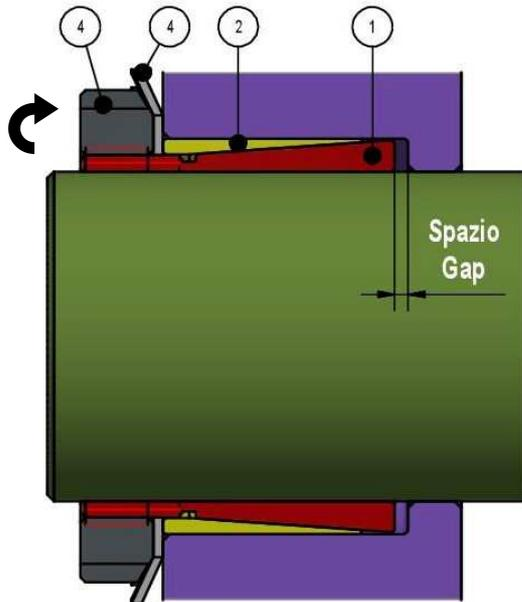

Fig. 4. Positioning of Locking Assembly and tightening of the nut.
Insert Locking Assembly into the hub bore and make it slide onto the shaft, making sure that connected components are positioned as required. **Inner respectively outer rings shall be completely supported by shaft respectively hub bore** (fig. 4).
Installation into hubs with shoulder requires a few mm's gap between inner ring and shoulder (fig. 4).
5. Use a calibrated torque wrench and tighten the nut to the specified tightening torque (Ma) (fig. 4).